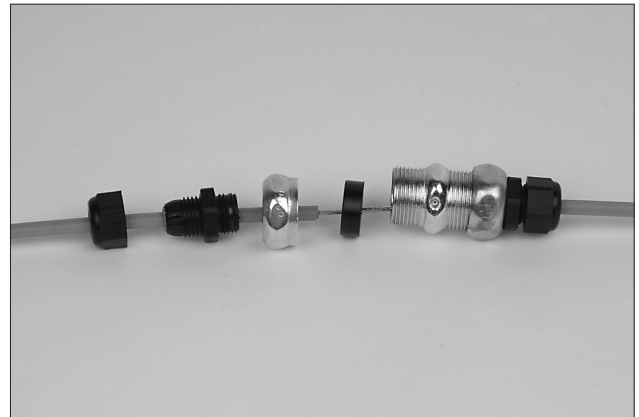

FIGURE 4-75
8. Push wire rope completely through remaining section of flexible conduit. See Figure 4-75.